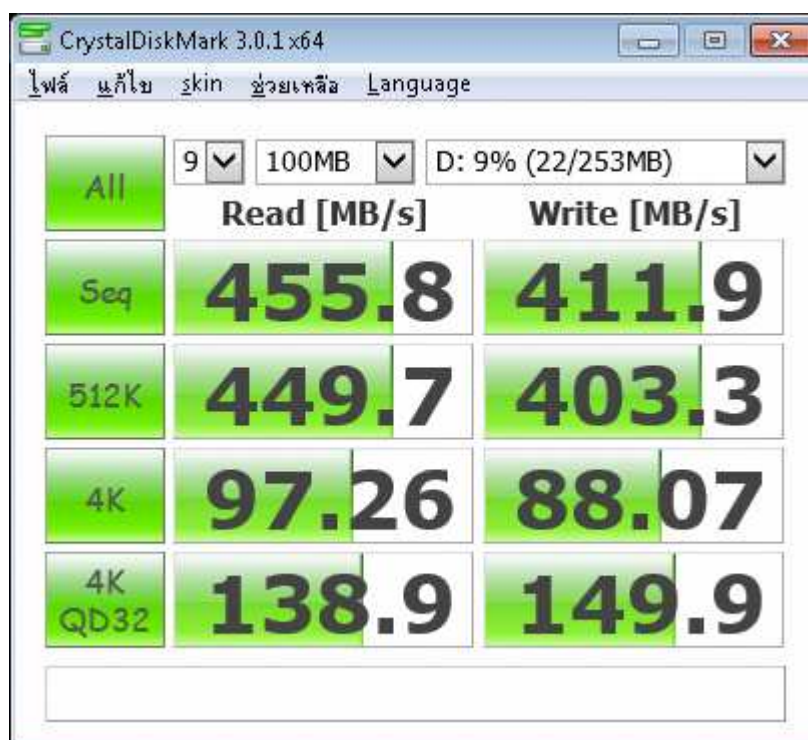

Figure 3-7 Disk performance test by benchmark
- Now disk can be read/write by file system operation. Figure 3-7 shows disk performance by using CrystalDiskMark benchmark.